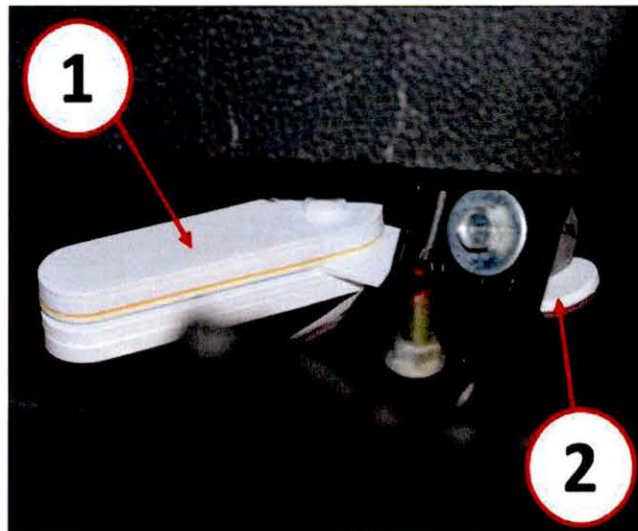

Fig. 6 Check Distance
4. Using feeler gauge (1) and/or equivalent, verify that clearance (2) of 2-3mm between the magnesium bracket and the floor pan has been maintained (Fig. 6).